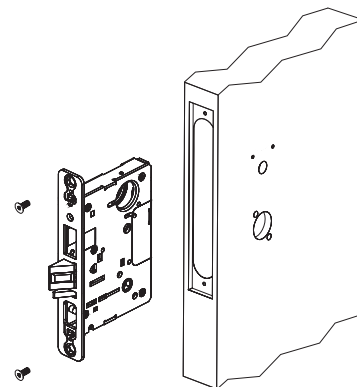

Figure 9
1. Insert mortise lock into door and fully tighten 1" lock mounting with two (2) wood screws and two (2) machine screws. (Figure 9)